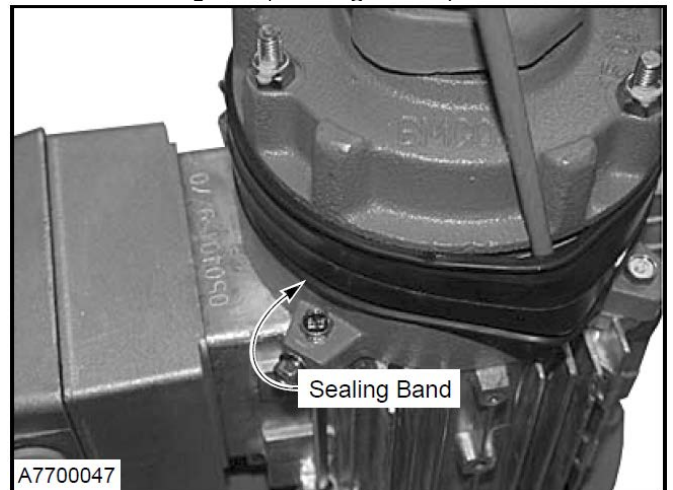

Figure 35
3. Remove sealing band. (See Figure 35.)